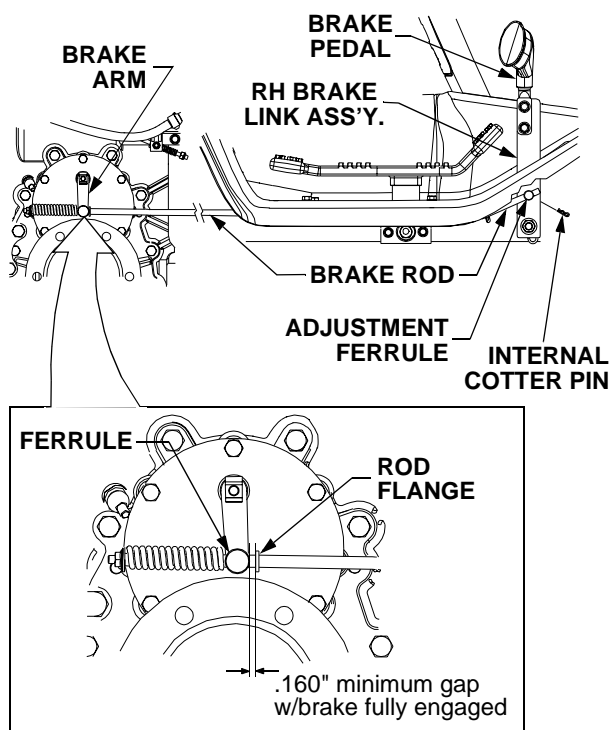

Figure 33
- From the right/rear side of the tractor, check the gap between the flange of the brake rod and the ferrule connected to the transmission brake arm. The gap should be a minimum of .160". See Figure 33.
- Remove the internal cotter pin and disengage the adjustment ferrule at the front of the brake rod from the brake link. See Figure 33.